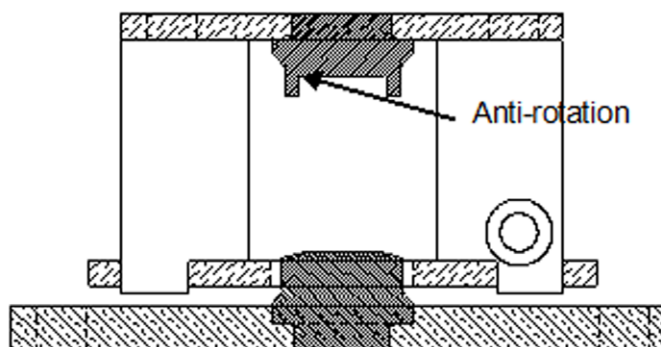
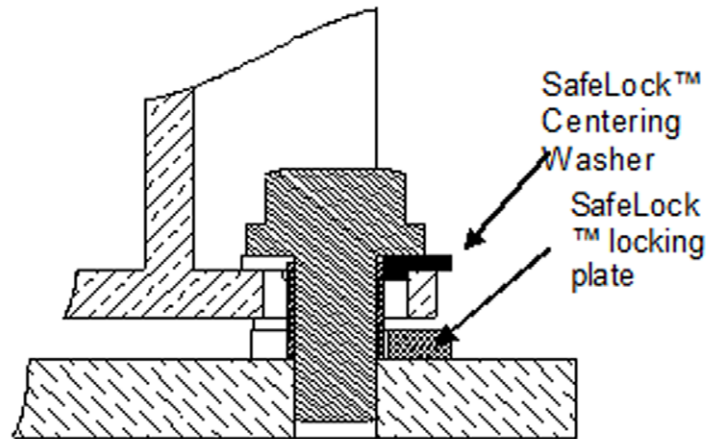

Figure 1-2: Installing receivers (side view)
Figure 1-4: Shipping Configuration
2. Insert the lower receiver into the hole at the center of the base plate. Insert the upper receiver into the hole at the center of the underside of the top plate. Align the anti-rotation slot in the top receiver as shown in Figure 1-2.
8. Reinstall the two SafeLock™ centering washers and tighten down the lift-off bolts. Make sure that the SafeLock™ centering washers seat correctly in the hole for the lift (see Figure 1-4). This will ensure that the top plate is aligned correctly with the base plate. Make sure that the top plate assembly is supported by the SafeLock™ locking plate, not the load cell.
2. If you are installing weigh modules without load cells, insert the lower receiver into the base plate hole as shown in Figure 1-2. Make sure that the top plate is properly aligned and locked to the base plate (see Figure 1-4).